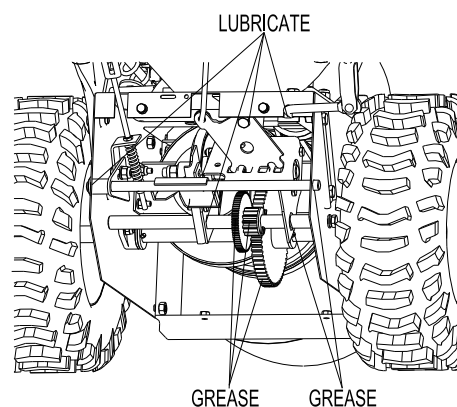

FIG 13
6.8.4 Lightly lubricate the snow thrower with light oil, wipe up any excess oil. (FIG 13)